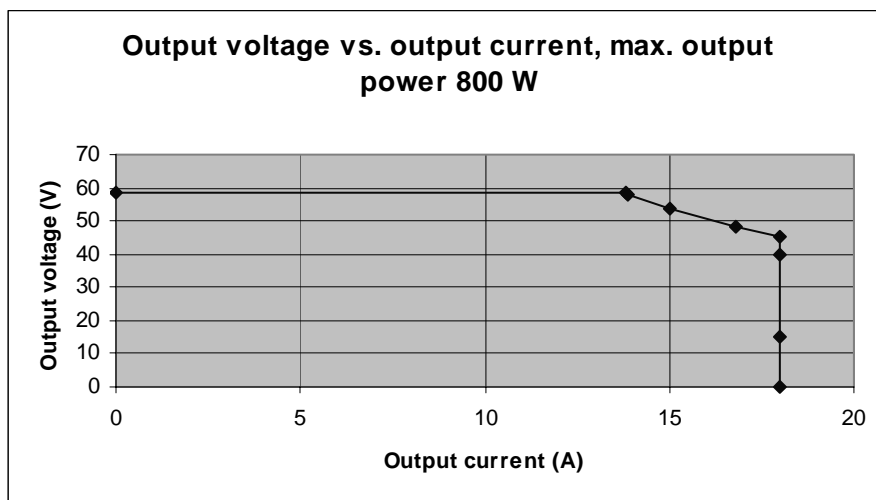

Figure 5
3.1.4 Output Voltage - Output Current Characteristics: Shown in Figure 5.